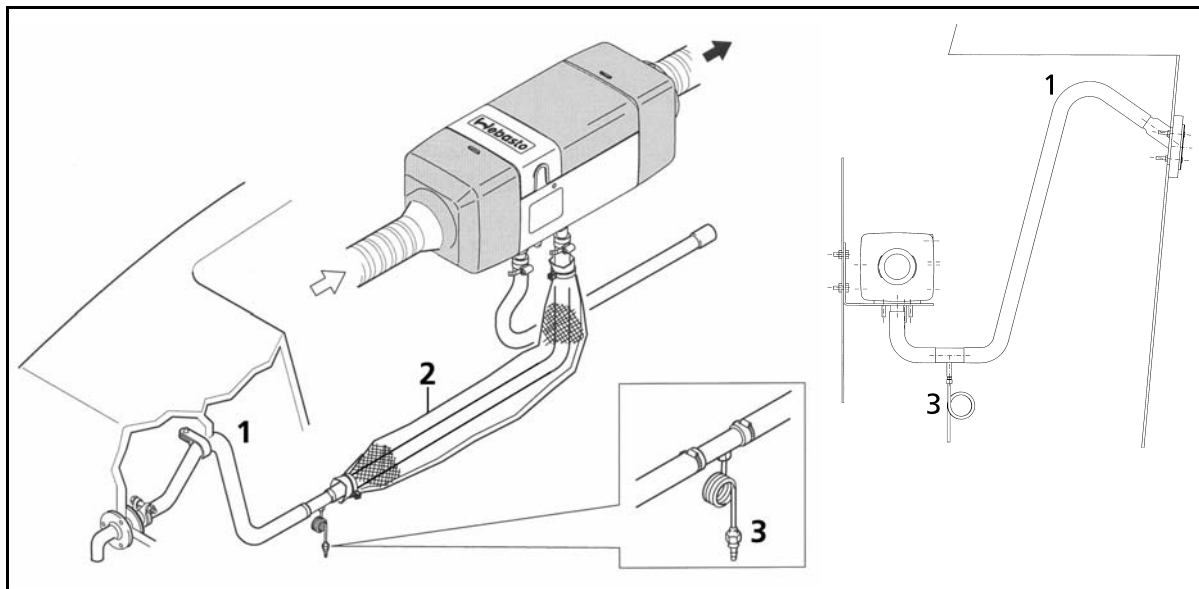

Figure 4. Exhaust System
- Always route lines with a goose-neck bend (see Fig. 4, page 15) preventing water from entering the system when the vessel is heeling
- A condensation water drain is necessary with exhaust line lengths greater than 3 meters (10 feet) and optional on shorter lengths (see Fig. 4, page 15) (drain to be filled with water after installation)
Route the flexible exhaust in such a way that the heat cannot affect adjacent heat sensitive materials, plastic piping, electric cables and sails etc. The stainless steel flexible exhaust tube supplied in the kit is wrapped in a glass / silicon protective insulating sleeve (see Fig. 4, item 2).
The end of the exhaust gas line must be routed with a goose-neck bend and be pitched downward toward the outlet (see Fig. 4, item 1). Any splash water that may have penetrated can thus drain back out again and not into the heater.
At the lowermost point of the exhaust gas line, a condensation water drain (see Fig. 4, item 3) can be installed via which the condensation water collecting in the exhaust gas line can be drained off at regular intervals. A condensation drain is provided in your heater kit to drain off any collected condensation or sea water that may enter the exhaust. Fill condensation drain with water to provide a seal against exhaust gas leakage once drain has been installed.
Legend for Figure 4: